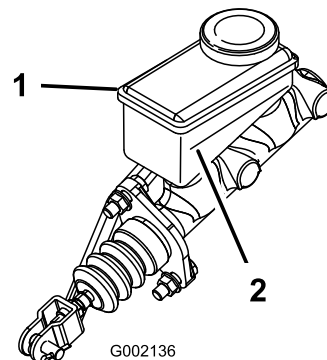

Figure 123
5. Look at the outline of the fluid level at the side of the reservoir (Figure 123).
- B. Add DOT 3 brake fluid to the reservoir until the fluid level is above the Minimum line (Figure 123).